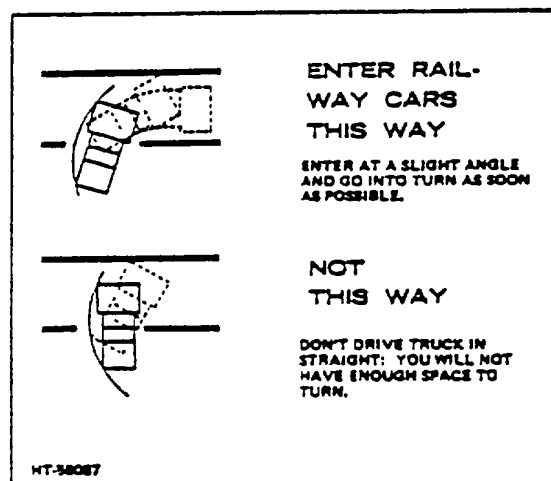

Figure 4-11. Entering Railway Cars
- o. Enter box cars at a slight angle and begin turning as soon as possible (Fig 4-11).